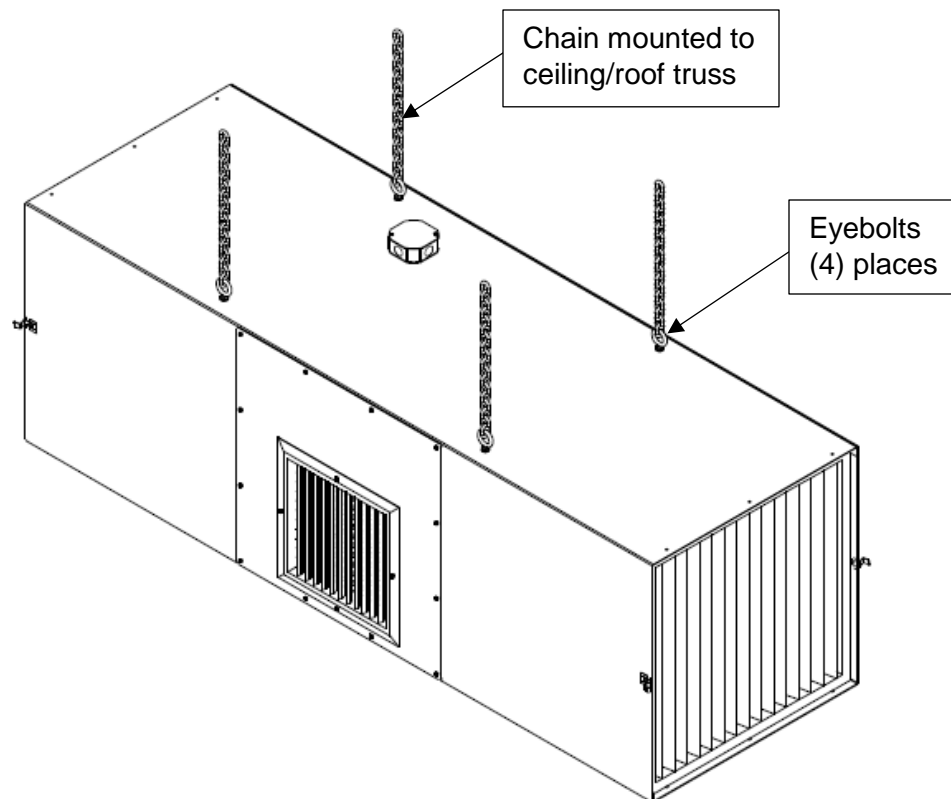

FIG. 1
3. Once eyebolts are secured, the MXT3500 is ready to be hung in an appropriate location (See **FIG. 1**).
2. Lift unit to access the threaded holes on the bottom of the cabinet. **NOTE:** The cabinet can be lifted by installing eyebolts on the top. Eyebolts are not supplied by Micro Air (See **FIG. 1**).
2. Install wall mount. The brackets have (8) 7/16" holes to mount to wall. The holes are spaced 16" apart horizontally by 24" vertically. **NOTE:** Anchors are not supplied by Micro Air. Minimum embedment depth for a 3/8" dia. wedge anchor is 1-1/2".
3. Lift unit to access the threaded holes on the bottom of the cabinet. **NOTE:** The cabinet can be lifted by installing eyebolts on the top. Eyebolts are not supplied by Micro Air (See **FIG. 1**).
2. Install floor stand. The stand has (4) 5/8" holes to mount to the floor. The holes are spaced 22" apart. **NOTE:** Anchors are not supplied by Micro Air. Typical minimum embedment depth for a 1/2" dia. wedge anchor is 2-1/2".